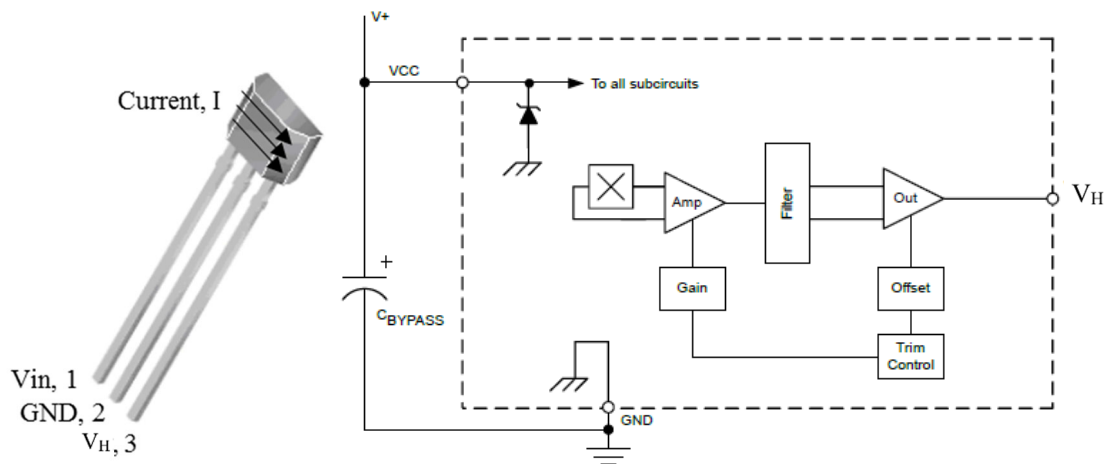

Figure 7. Allegro Hall Effect sensor diagram (left) and functional block diagram of the internal circuitry (right).
For this lab, a continuous-time, ratiometric, linear Hall effect sensor will be used. Figure 7 below shows a functional block diagram of this sensor. It can operate using a supply voltage between 4.5 and 6 V, but it is designed for 5 V operation. This sensor has a quiescent output voltage that is 50% of the supply voltage, meaning that when no magnetic field is present and when supplied with 5 V, the sensor will return an output of 2.5 V. As the sensor is brought in range of a magnetic field, the output voltage will increase or decrease by 5.0 mV/G depending on the polarity of the field and the orientation of the sensor.
- Insert the hall effect sensor in the 3-pin extension provided. Note that the bypass capacitor indicated in Figure 7 is connected to the sensor as closely as possible to limit current inrush and electrical noise from damaging the sensor. They are very sensitive.